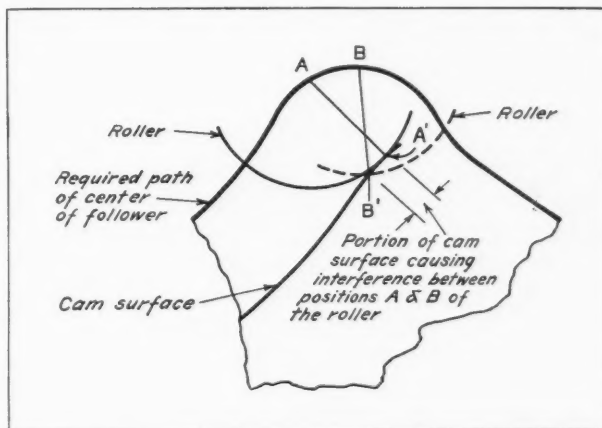

Fig. 1. Cam contour interference between points (A') and (B') prevents roller motion along the follower path from (A) to (B)
Fig. 1. Plungers 3/4 inch long are produced from 1/2-inch diameter lead-bearing steel bars at a cutting speed of 294 surface feet per minute, which represents an increase of 40 per cent over the speed that can be employed on conventional screw steel
This represents an increase in surface feet per minute of 40 per cent, and in production of 36.3 per cent when using "Ledloy." This increase does not take into account the greater production obtained per machine-hour due to longer tool life. About five times greater tool life was secured in machining the lead-bearing steel, there were fewer rejections, and a better finish was obtained. A close-up view of the machining operation is shown in Fig. 1.
As an example, in Fig. 1, the follower cannot move along the required follower path from point A to B, since this would require the removal of the interfering cam contour between points A' and B'. Such a condition, which may be termed "cam interference," is usually eliminated by "trial and error" methods which (1) increase the diameter of the cam or (2) spread the cam throw over a greater angle. The method to be described provides a means of directly determining the dimensions of a disk cam that will avoid cam interference.